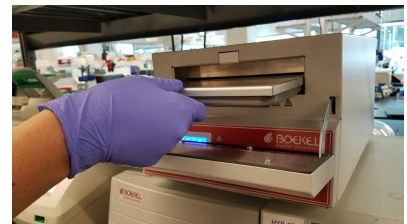

Figure 8: Placing chamber in oven
9. Close hybridization chamber, insert into hybridization oven, and clamp into place (see Figure 8). **Incubate at 37°C overnight** (16–24 hours).